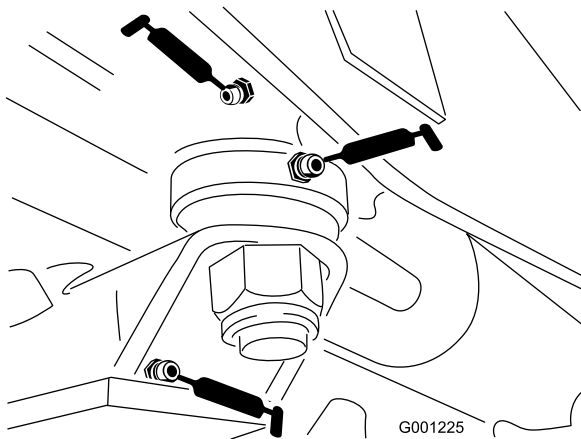

Figure 44
- Steering-plate bushings (Figure 44)
- Axle-pin bushing (Figure 44)